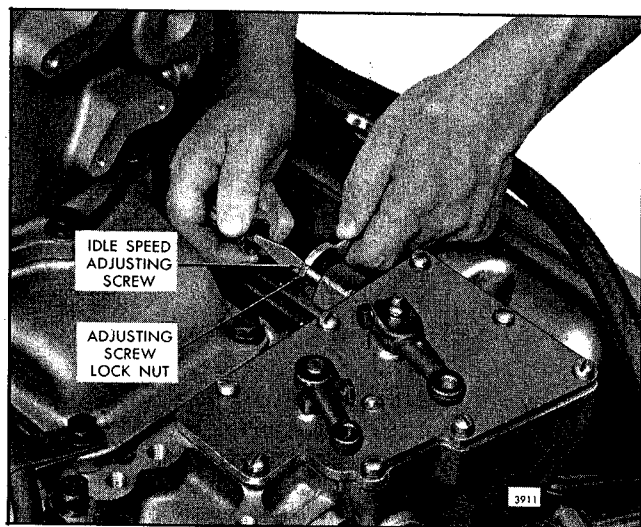

Fig. 21 - Adjusting Engine Idle Speed
3. Start the engine and loosen the idle speed adjusting screw lock nut. Then, adjust the idle screw (Fig. 21) to obtain the desired engine idle speed.
1. With the engine running at normal operating temperature and with the buffer screw backed out to avoid contact with the differential lever, turn the idle speed adjusting screw (Fig. 21) until the engine idles at the recommended idle speed. The recommended idle speed is 400-600 rpm, but may vary with the engine application.